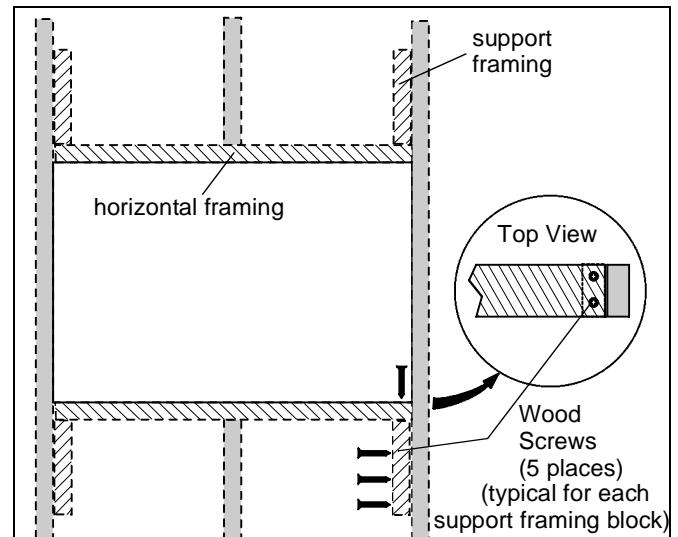

Figure 2
3. Using three #10 x 2-1/2" countersunk wood screws (not provided), attach each support framing to the studs (See Figure 2)
5. Attach horizontal framing to support framing with two #10 x 2-1/2" countersunk wood screws (not provided). (See Figure 2)